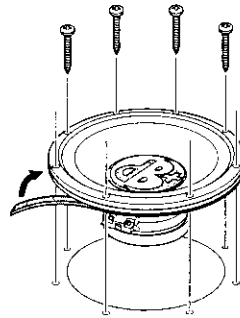

Fig. 1
1. Attach the included gasket tape to the back of the speaker flange as shown in Fig.1 so that the flange is completely covered.